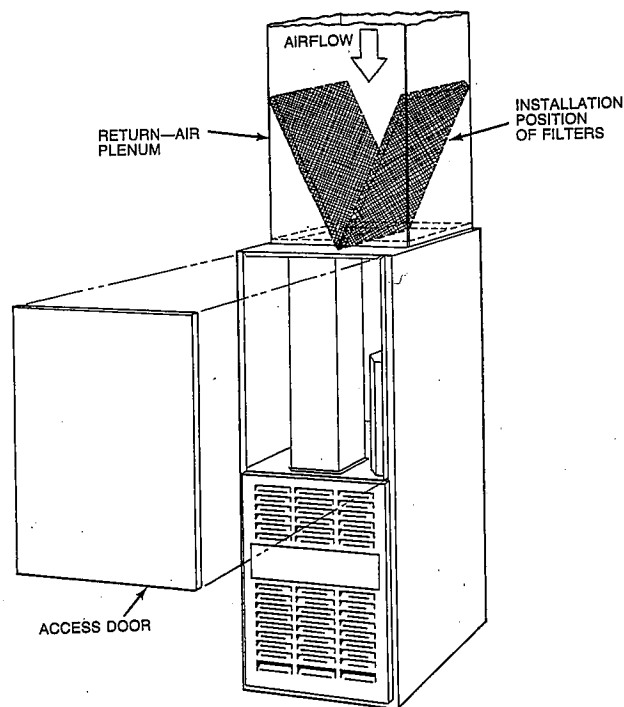
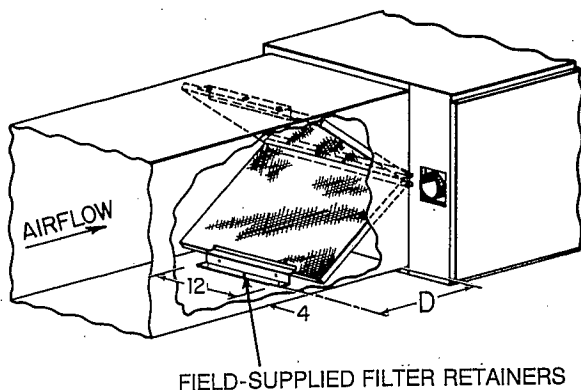

Fig. 9—Downflow Filter Arrangement
Fig. 8—Horizontal Filter Arrangement
- a. Install field-supplied filter retainers as indicated in Fig. 8 and Table 4 before connecting return-air duct to furnace.
The 2 factory-supplied filters are shipped in the blower compartment. After the return-air duct has been connected to the furnace, install the filters in a V-formation inside the return-air plenum. See Fig. 8 and Table 4 for horizontal applications. Horizontal filter retainers must be field-supplied. See Fig. 9 for downflow applications.